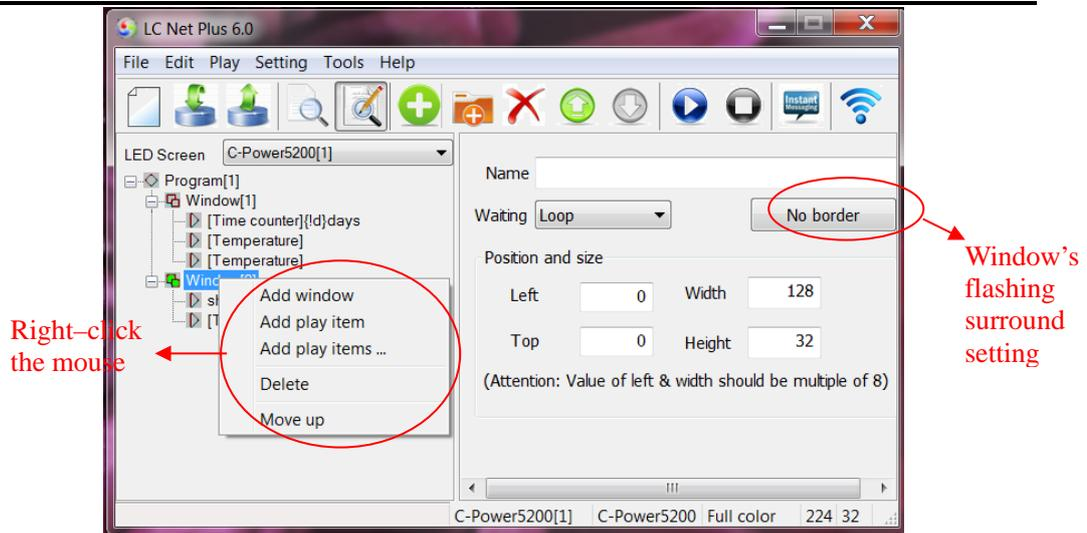

Figure15 Window management
Method 4 (recommended): right click a **program** or a **window** in message (at the left side of the console); select right shortcut in the pull down menu, as shown in Figure15.
When the **window** is selected, the attribute box at the left side will show its attribute, see Figure15. The following items can be set:
- B. **Flashing surround**: click the flashing surround setting (see Figure15), the “Border selector” pops up, as Figure16 shown. Select the surround type. Every window can set the flashing surround to highlight the window’s content.